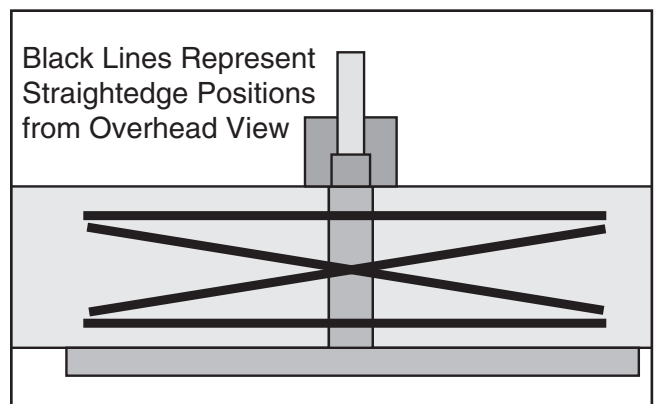

Figure 56. Straightedge positions for checking infeed/outfeed table parallelism.
3. Place the straightedge in the positions shown in **Figure 56**. In each position, the straightedge should sit flat against both the outfeed table and the infeed table.
3. Place the straightedge in one of the positions shown in **Figure 56**.